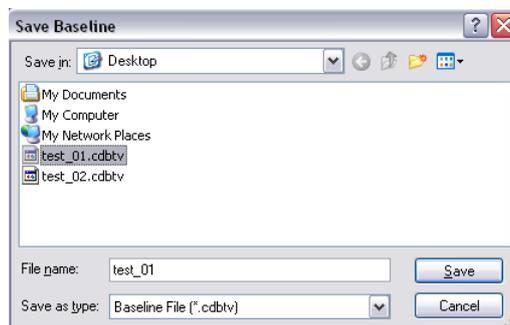

Figure 4.11 [Save Baseline] dialog box
- (2) Select a location to save the spectrum by clicking the arrow on the extreme right in the [Save in] box (in Figure. 4.11 “Desktop” is selected).
- (3) Input a filename into the [Filename] text box. The extension (the letters appearing after “.”) need not be entered. The output file is saved as a .cdbtv format file.
- (4) Clicking the <Save> button saves the spectrum to disk (the filename in the example is “test_01”).